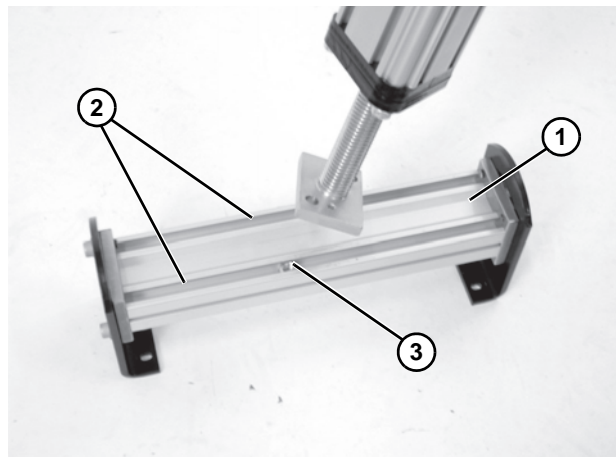

Figure 7
8. Position the conveyor mounting bracket and crossmember tube assembly (**Figure 7, item 1**) so there is access to the underside t-slots (**Figure 7, item 2**) and hex nuts (**Figure 7, item 3**).